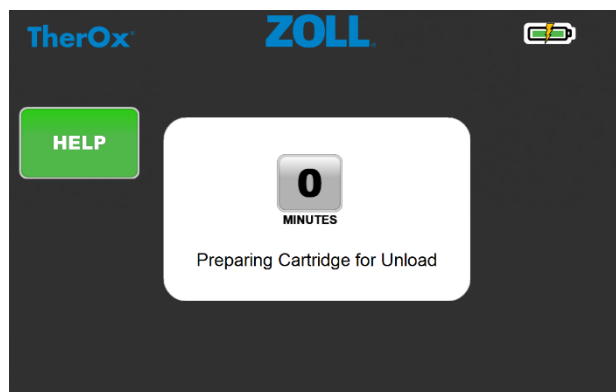

Figure 21. Preparing Cartridge for Unload
1. Press the button on the display identified as 'CONTINUE' to unload the cartridge. The display will change to a screen that notifies the operator that the console is preparing to unload the cartridge (see **Figure 21**).